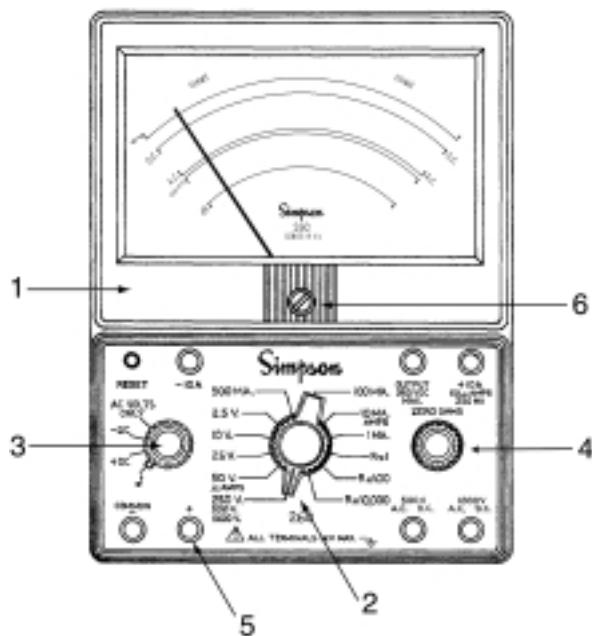

Figure 3-1. Front Panel Controls, Jacks and Indicators
- 5. Circuit Jacks: There are seven jacks on the front panel marked with the functions they represent (Figure 3-1). These jacks provide the electrical connections to the test leads. The COMMON (-) jack is used (in conjunction with the black test lead) as the reference point for the measurement of all the functions with the exception of the 10A range.